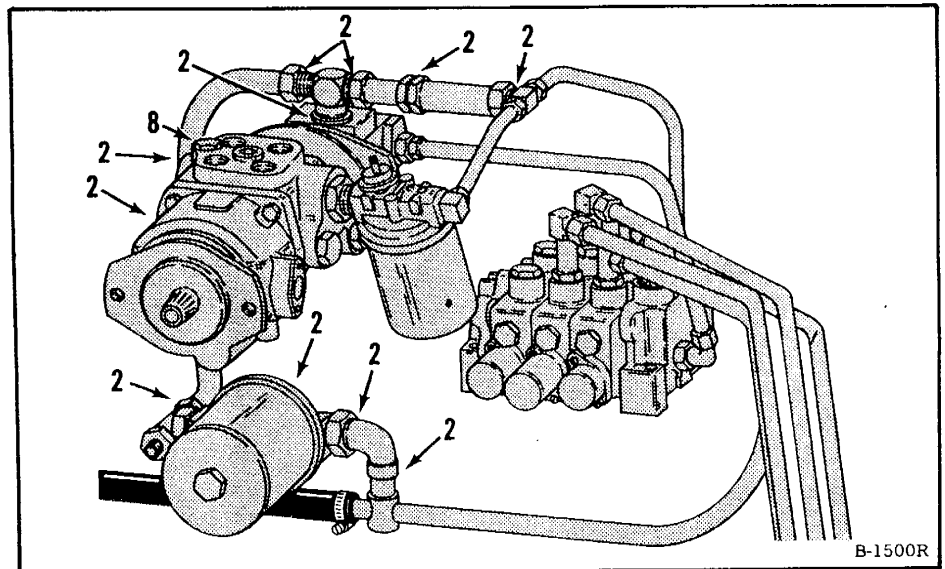

Fig. 2-8 Hydraulic System
- (3) Loosen fitting at the top of the pump (Fig. 2-8, Item 7). When fluid begins to flow out, tighten the fitting.
- (4) While the reservoir is under pressure, check the eight areas shown (Fig. 2-8). See if hydraulic oil is leaking from any of those areas. If it is, correct the cause of leak and check again.
(1) Remove the plug from the top of the valve plate (Fig. 2-8, Item 8).
(2) Put a fitting in the valve plate and connect a clear hose to the end of the fitting. Put the other end of the hose in the reservoir filler pipe.
(3) Start the engine and operate at 3/4 throttle. Operate the hydraulic controls and drive the machine for about 15 minutes, while looking at the clear hose. If air bubbles can be seen in the hose after 15 minutes, there is an air leak. Check the places shown (Item 2) for loose or damaged connections. Repair as necessary and check again. If no leaks can be found and hydraulic action is not smooth, make replacement of the 25 micron filter.